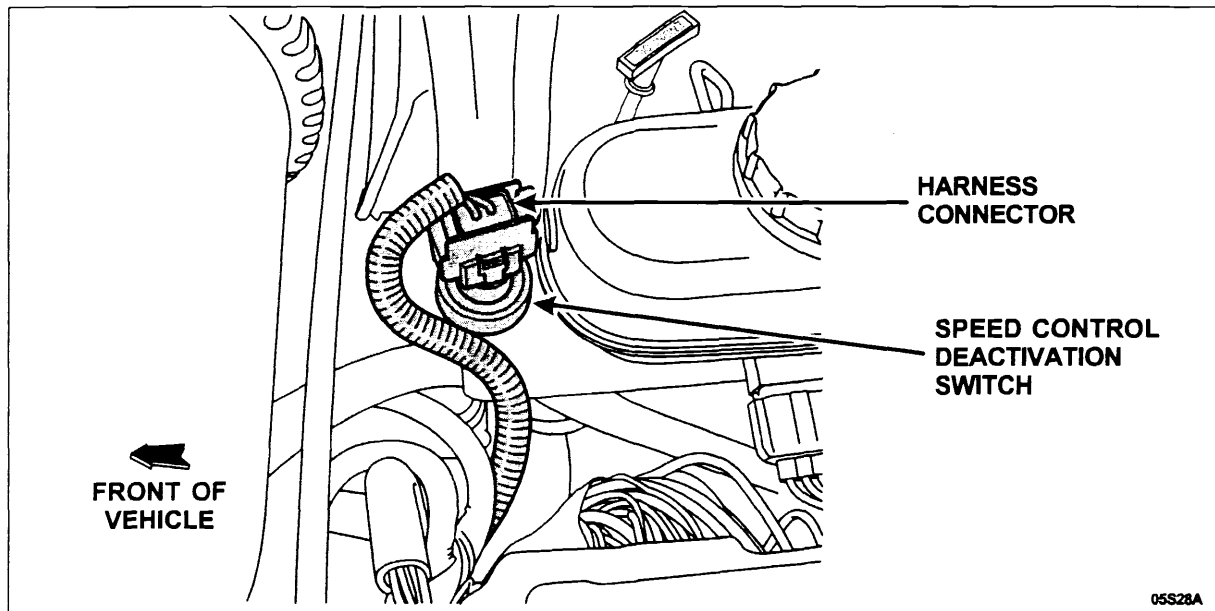

FIGURE 1
1. Disconnect the electrical connector from the speed control deactivation switch which is located on the brake master cylinder. See Figure 1.
A. No. The Speed Control Deactivation switch is mounted to the brake master cylinder under the hood, and is not located on the steering wheel (see Attachment III, Figure 1).